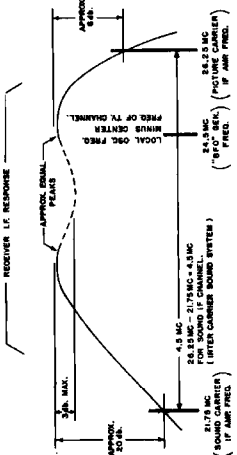

Fig. 12. IF amplifier responses
5. Check the I-f amplifier frequency response by tuning the signal generator from 21 mc through 26.25 mc and observing the change in d-c voltage at the electronic voltmeter. If the signal generator output is set for an electronic voltmeter reading of 1.5 volts at the peak I-f amplifier response, the d-c voltage should not drop below one volt when the two peaks are unmodulated. If the two peaks are not satisfactory, repeat the procedure or try slight modifications of the recommended settings to obtain the desired response. Avoid resonating the coils with the iron core at the bottom end of the coil form. (Adjustment screw near limit of its travel.) Check the two carrier I-f responses, 21.75 mc and 26.25 mc. The 21.75 mc response will be approximately 20 db below the peak response (Approx. 0.15 volt) and the 26.25 mc response will fall approximately 6 db below the peak (Approx. 0.4 volt). Refer to Fig. 12.